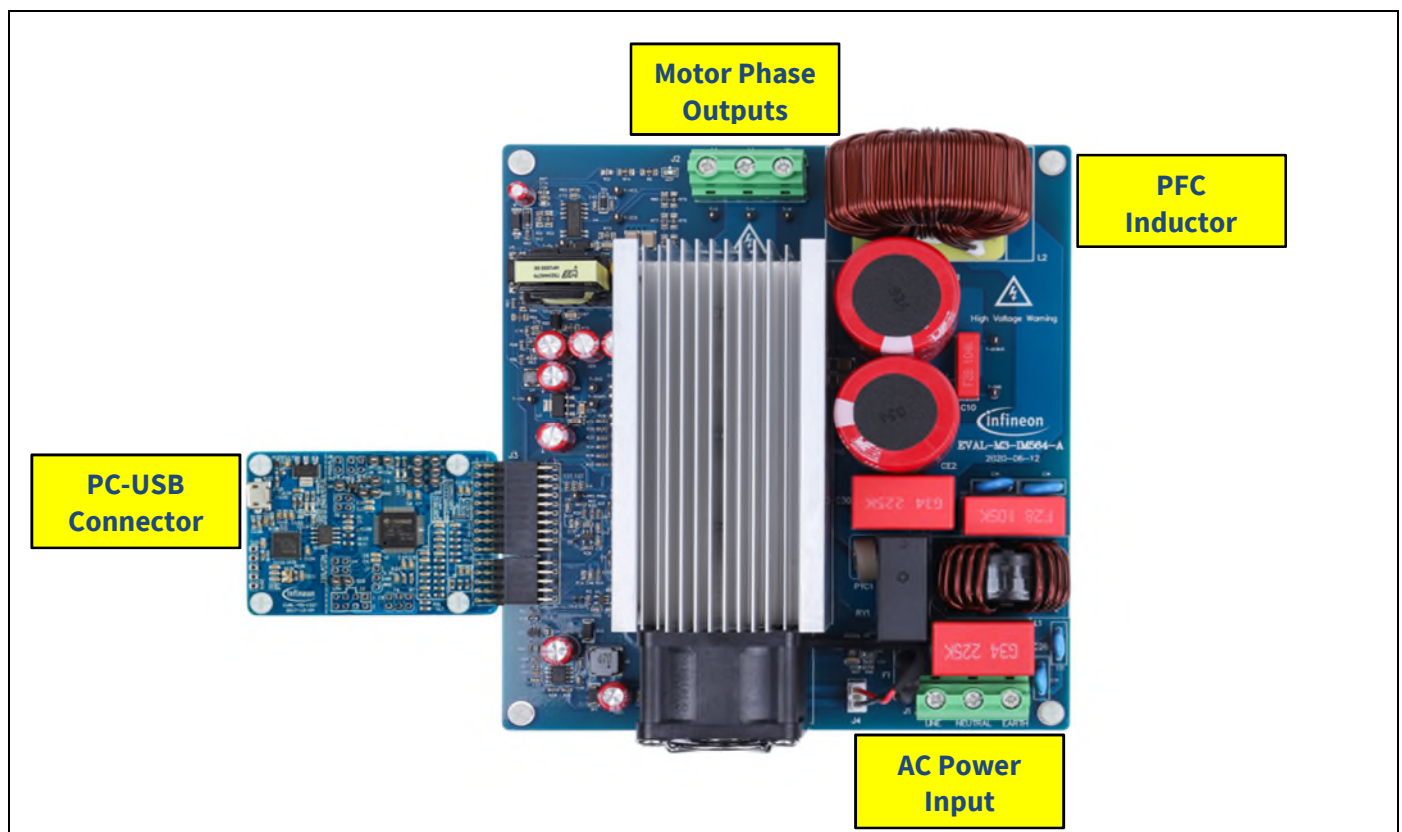

Figure 4 System connection example using EVAL-M3-IM564
Figure 4 shows the system connection using EVAL-M3-IM564 and control board (used control board EVAL-M3-102T for example).
2. Connect EVAL-M3-IM564's MADK M3 30-pin interface connector (J3) to control board (see Figure 4).